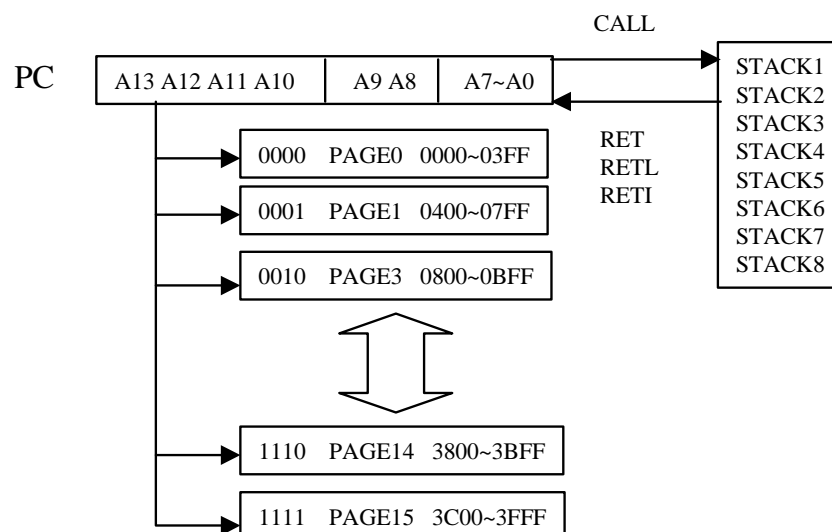

Fig.4 Program counter organization
- * The structure is depicted in Fig.4.